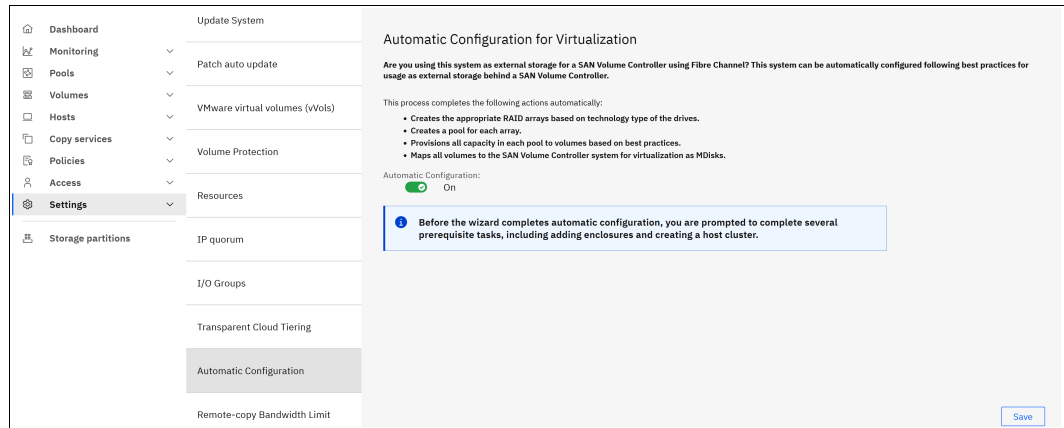

Figure 2-60 Automatic Configuration wizard enablement
1. Click **Settings** → **System** → **Automatic Configuration**. Then, select Automatic Configuration **ON** and click **Save**, as shown in Figure 2-60.